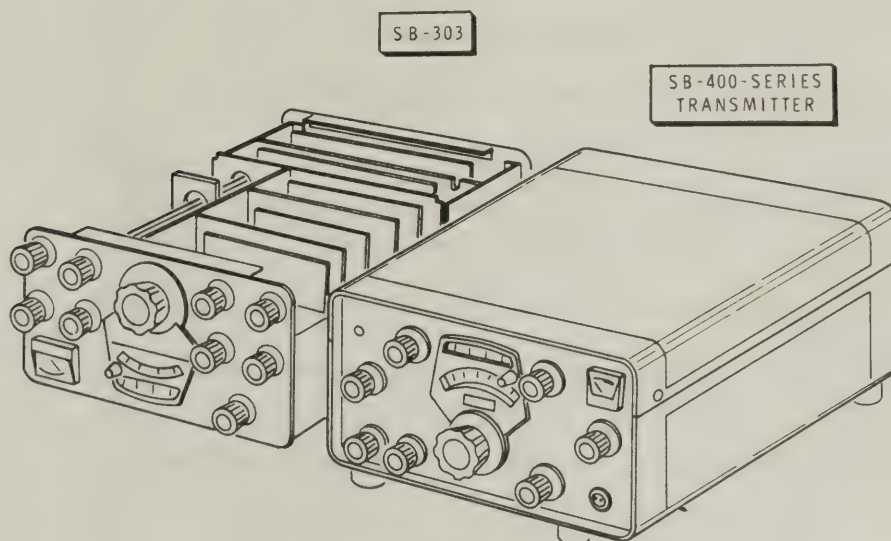

Figure 8
- (✓) 1. Position the Receiver and your transmitter as shown in Figure 8.